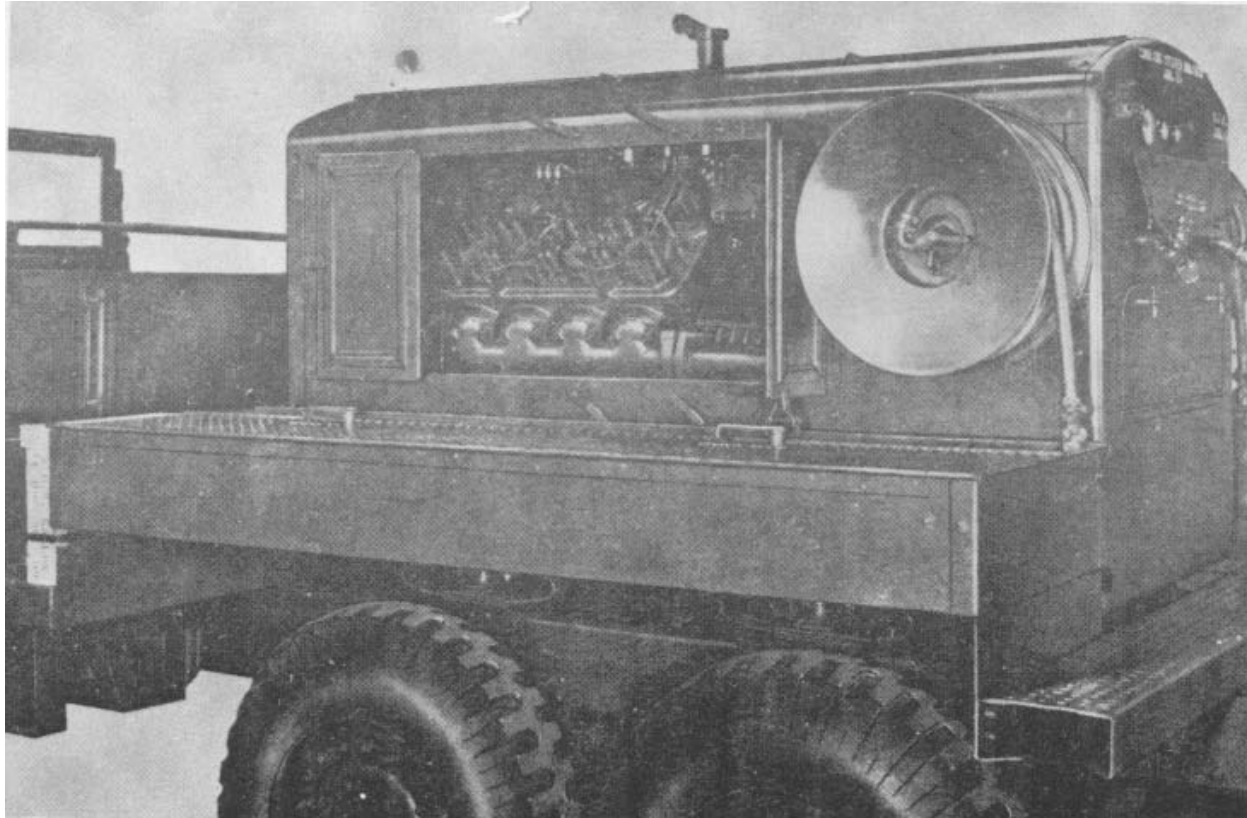
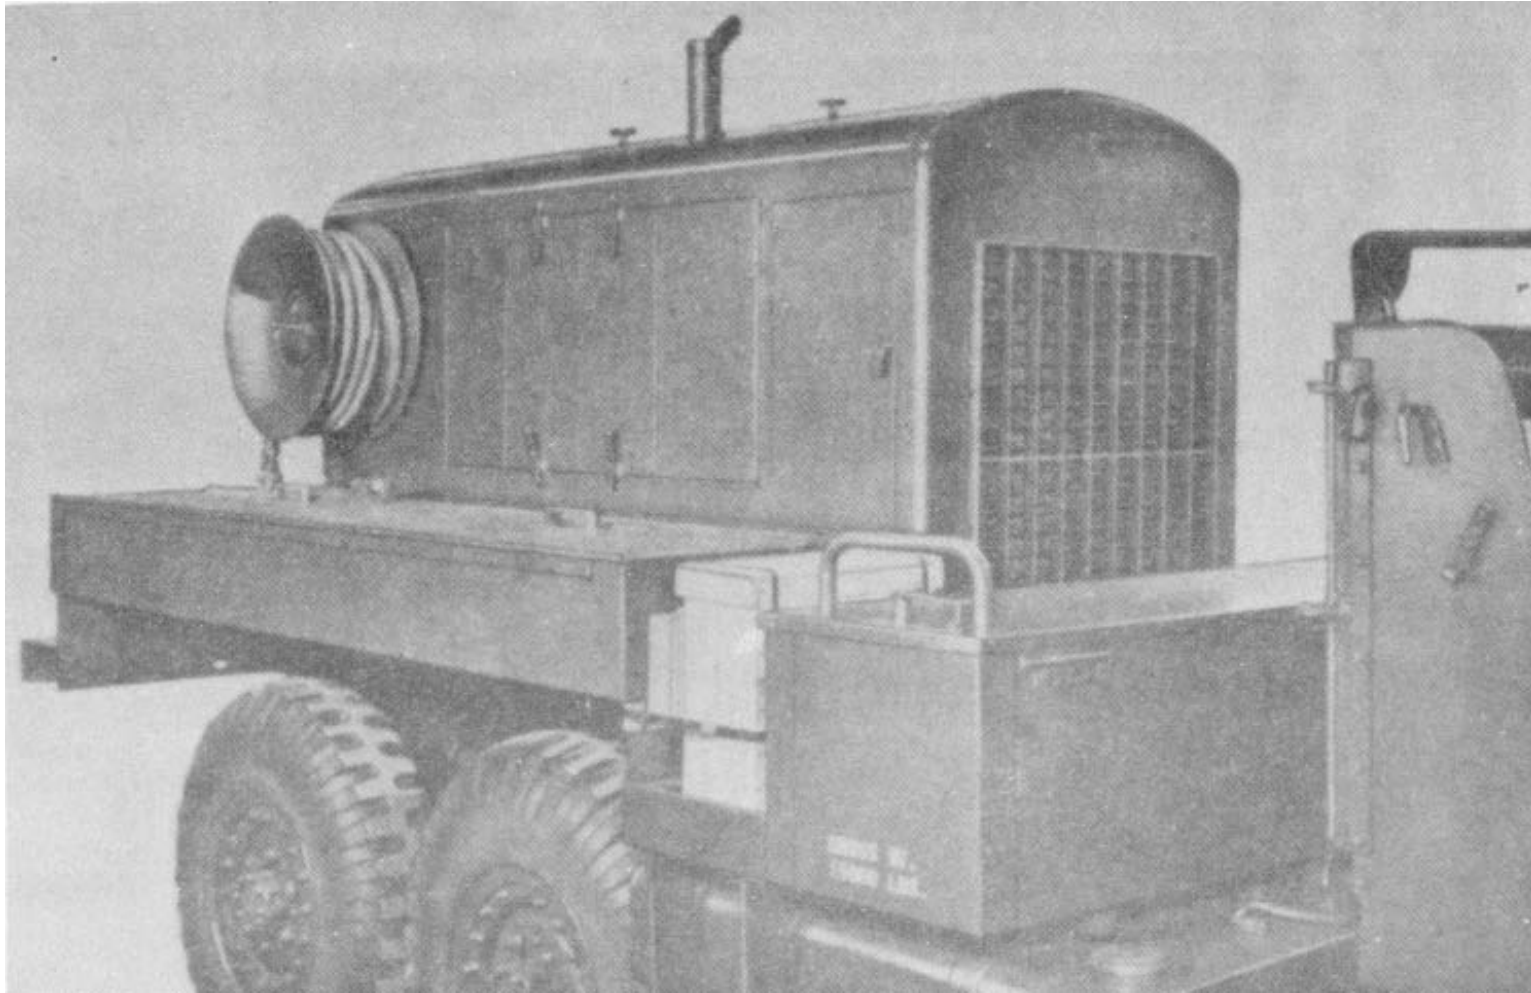
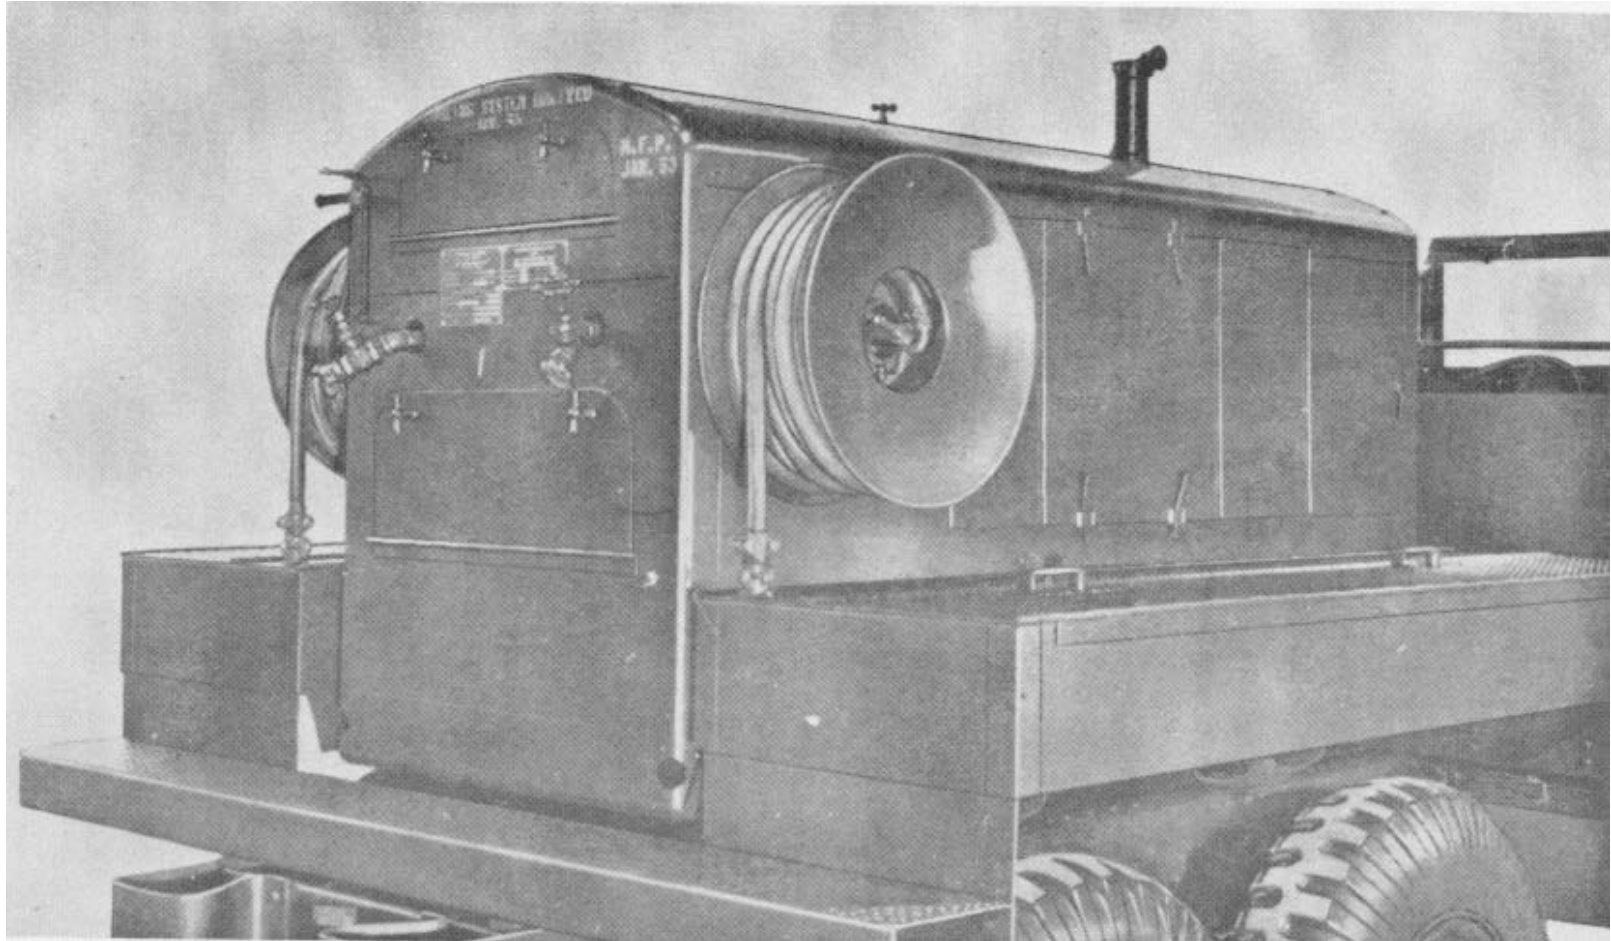

Figure 1. Air component mounted on truck.
Figure 2. 3/4 left-front view of air compressor.
Figure 3. 3/4 right-rear view of air compressor.
a. *General Information.* The Le Roi truck-mounted air compressor Model 210G1 (fig. 1) is a self-contained unit complete with all controls, switches and indicators necessary for normal operation. The engine-compressor is completely inclosed in a sheet metal housing (fig. 2). Doors in the housing (fig. 1) provide access to all parts of the engine, compressor, and instrument panel. A weather cap mounted on the engine exhaust pipe prevents the entrance of moisture into the engine. The basic engine-compressor is set in a steel frame with neoprene vibration dampers to alleviate vibrations. The entire unit is mounted on a 2 1/2-ton, 6 x 6 truck. Hose reels (fig. 3), valves, and instruction plates are located at the rear of the compressor.